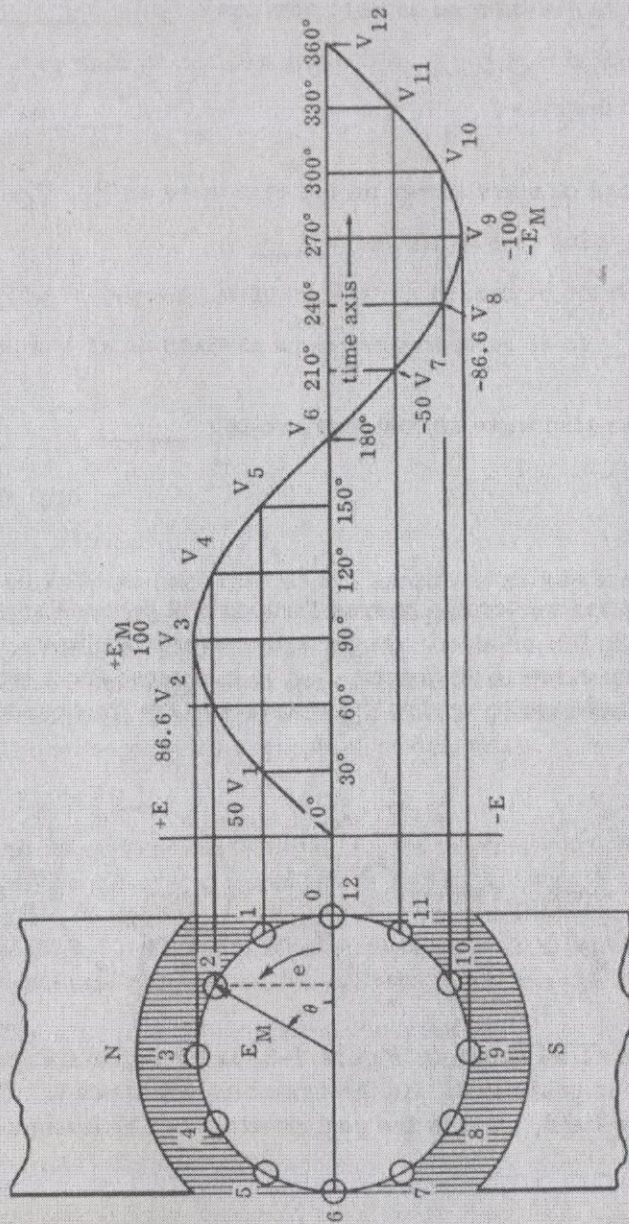

Figure 7-3. Generation of sine-wave voltage.
27. Some vectors, such as E_M in Figure 7-3 on the following page, may be rotated like the spokes of a wheel to generate angles. (The vectors representing instantaneous voltages in the sine wave are not rotating vectors.) Positive rotation is counterclockwise and generates positive angles. Negative rotation is clockwise and generates negative angles. The vertical projection of a rotating vector may be used to represent the voltage induced in an armature at any given instant. In Figure 7-3, the line E_M is a rotating vector, and the dashed line e is the vertical projection representing the instantaneous voltage when the angle θ (theta) reaches 60 degrees. The cross-section of the armature (conductor) is shown, with its positions numbered 0/12 (the starting and ending points are the same) through 11. Angle θ is 60 degrees when the armature is at position 2.
Refer to Figure 7-3 for Frames 27 through 41.
Angle θ , as shown in Figure 7-3, is 60 degrees at position 2 and 90 degrees at position 3. As the armature continues to rotate through the magnetic field, what is the next position at which angle θ is 60 degrees?
38. When the armature in Figure 7-3 is at any point between 0 and 180 degrees, e is positive. The value of e is negative when the armature is at any point between _____ and _____ degrees.